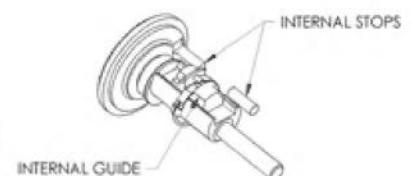

Figure 4
- Multi-turn potentiometers have a fragile internal guide (see Figure 4). This guide will damage easily if the displacement cable is taken to the minimum or maximum limits of travel with excessive force. This guide will not take much abuse and, if broken, will render the potentiometer non-functional and non-repairable. The internal guide endpoints should not be used as physical stops for the position transducer. When setting up and using the position transducer, allow enough cable travel so the cable motion range is within both stops and not touching either one of them.